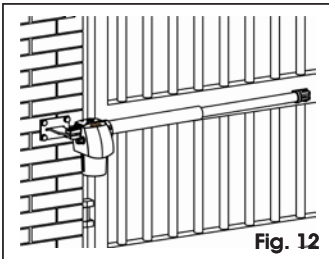

Fig. 12
- ⚠** The G-BAT ENV operator is available in both right and left versions. The operator must always be positioned as shown in Fig.12. The right hand operator is the operator which, by looking at the gate from the side where the operator is installed, is located on the right of the leaf (or on the right leaf in the case of 2-motor applications). Consequently, the motor on the left (or on the left leaf) is identified as the left operator.